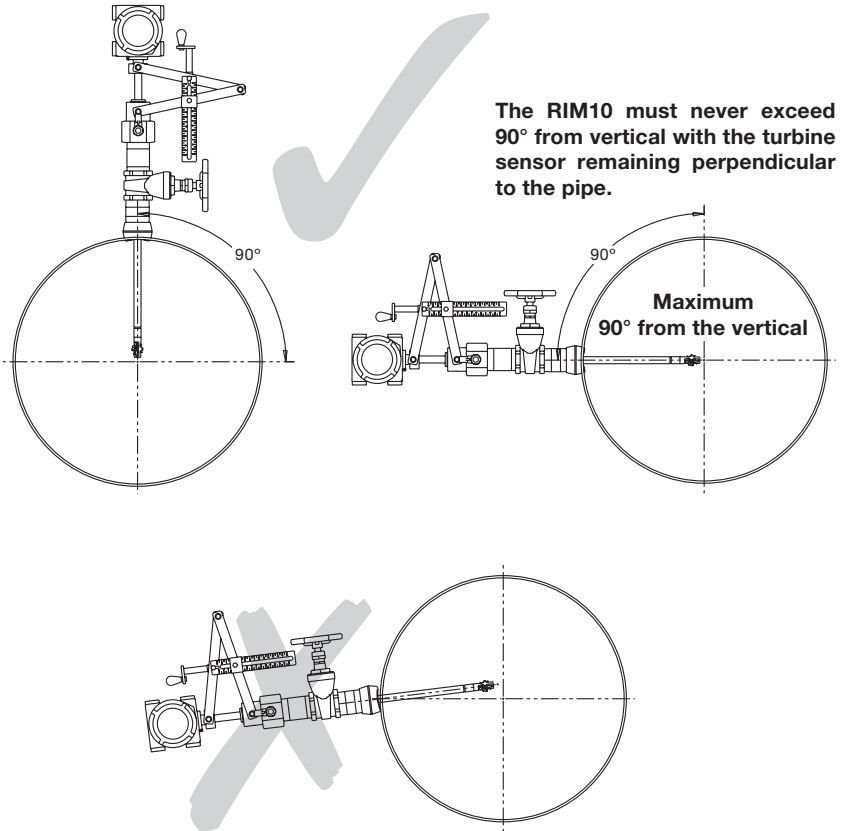

Fig. 1 Fitting orientation
2.3 Fitting orientation - see Figure 1